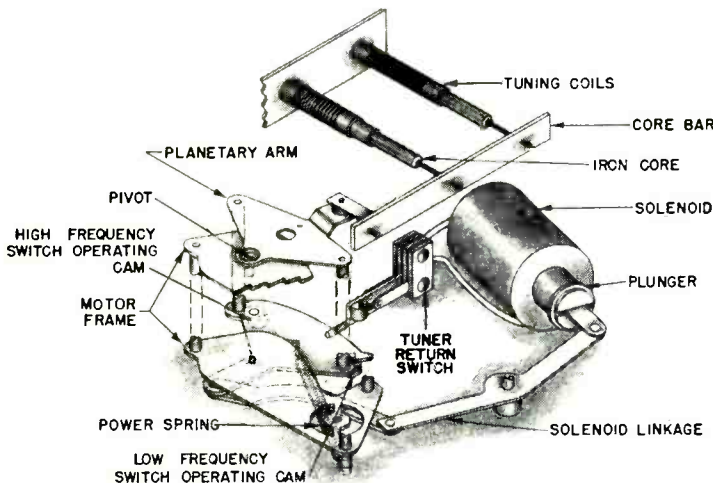
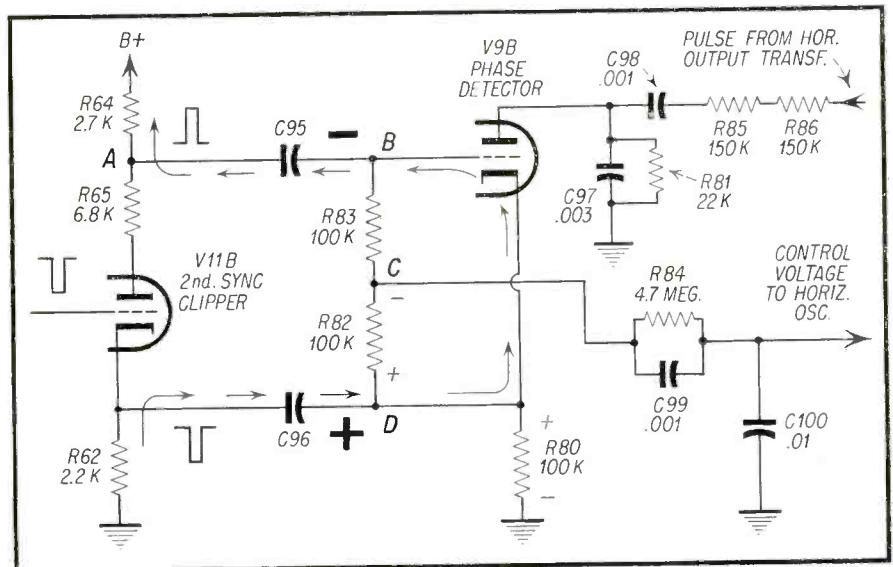

Fig. 2—Location of Power Spring and its control of core bar.
Fig. 1—AFC circuit of Motorola TS-531 and TS-609.
3. Adjust the red  $G_2$  so that a black bar is barely visible. The operating characteristic of the red gun has now been set as indicated by curve 1 in Fig. 2.
gray bar we will observe that the gray bar is now tinted blue because of the adjustment just made. We now adjust the blue  $G_1$  again by increasing the bias on the blue gun. The new blue gun characteristic curve is now curve 3' in Fig. 2. The gray bar beam current for the blue gun is still C units but corresponds to point C' on curve 3'. If this readjustment has been made properly, examination of the white bar will reveal no color tinting, and we have established proper tracking.
The Delco tuner is not activated with an electric motor as are some other tuners but it is caused to sweep across the radio band through the use of energy stored in a stretched spring. The power spring as shown in Fig. 2 couples its motivating force to a gear train and a planetary arm. Connected to the planetary arm is the core bar which has fastened to it one end of the tuning cores. Thus, mechanically, the core bar
**T**HE circuit chosen for analysis in this issue is that of a triode horizontal afc phase detector. The particular circuit chosen is from the Motorola TS-531 and TS 609 chassis. It is frequently used in other models and by other manufacturers. Fig. 1 is a schematic of the circuit under consideration. Fig. 2 is its block diagram.
Referring to Fig. 1, we observe that the sync pulses at the input to the 2nd sync clipper are negative in polarity. As a result, we have positive pulses at the plate and negative pulses at the cathode of V11B.
Since, this pulse makes the grid positive with respect to its cathode, a grid current flows through V9B as indicated by the light arrows. This action occurs only at the time of the sync pulse. Since the grid to cathode path is one of low resistance, C95 and C96 charge up quickly to the peak value of the sync pulses. The polarity of these condenser charges are as indicated in Fig. 1, so